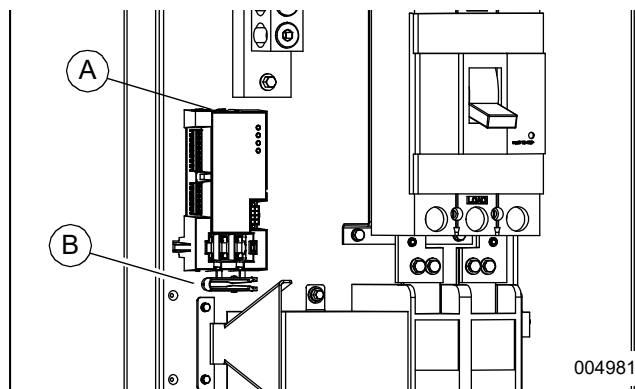

Figure 4-2. Test Pushbutton and Fuse Removal/Installation Tool
See Figure 4-2. A “Test” pushbutton (A) is provided on top of the SACM to test the operation of the load shed functions. The test pushbutton will work when the ATS is in the utility or the generator position.
See Figure 4-2. A fuse removal and installation tool (B) is included in the SACM housing.